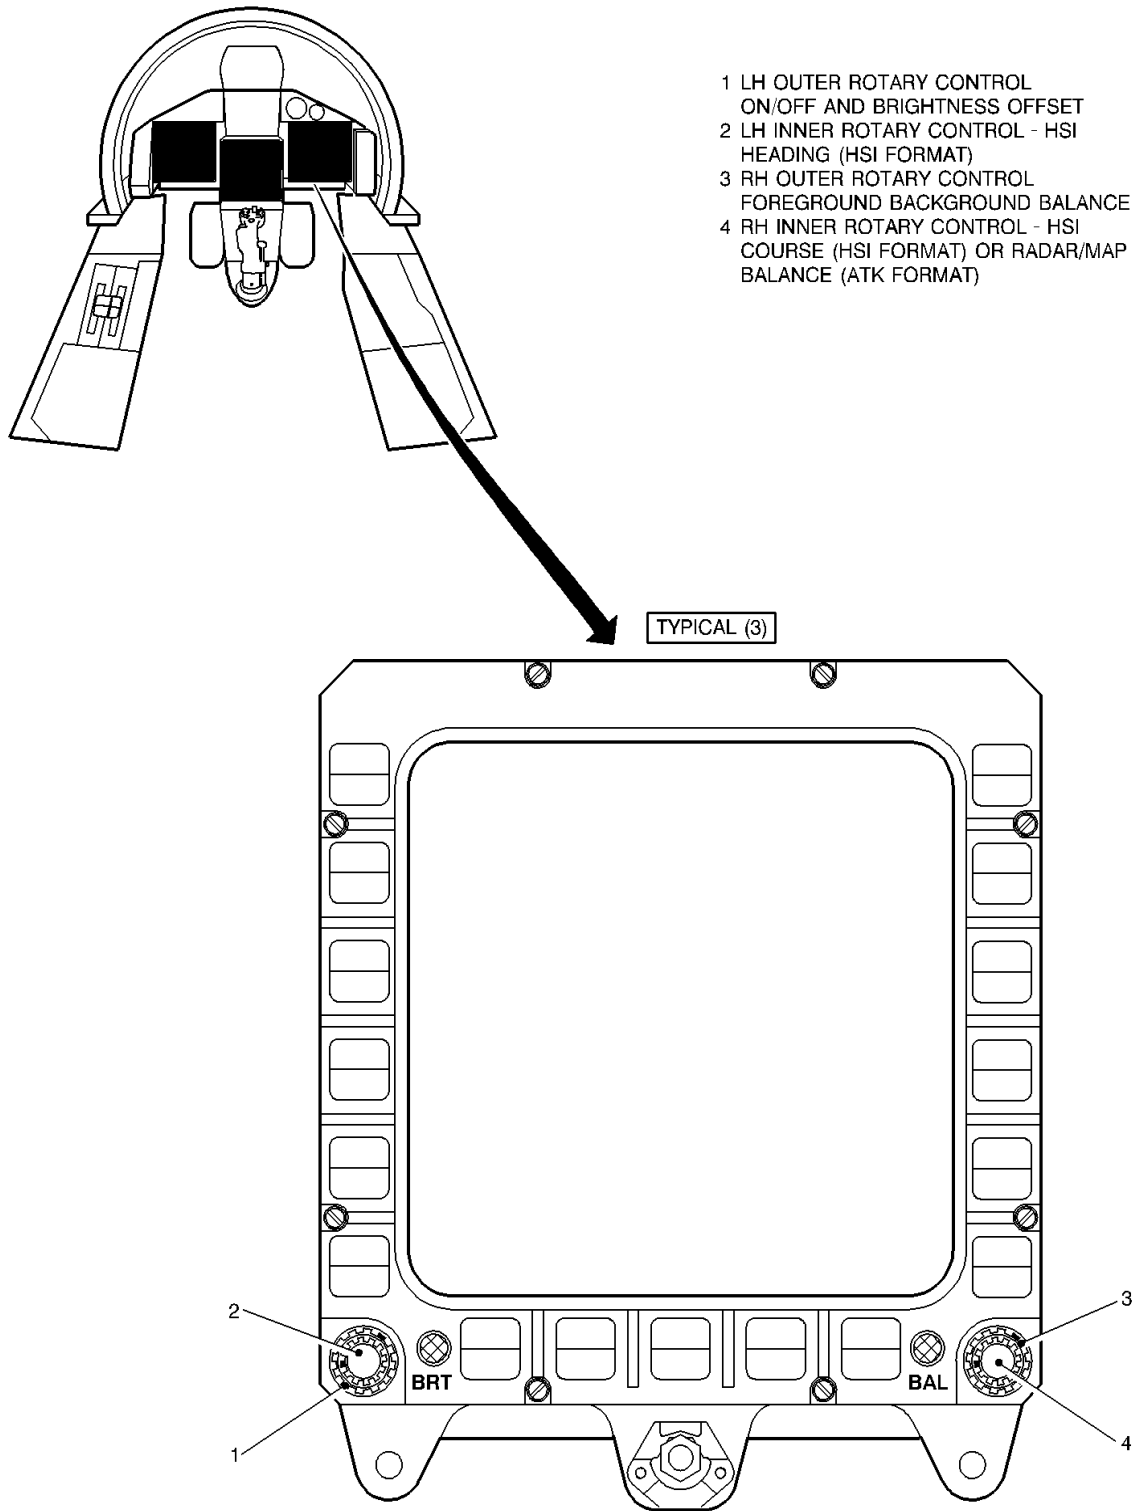

Figure 1.18 - Multifunction Head-Down Display
The aircraft is equipped with three MHDD (Figure 1.18), each MHDD comprising a 152mm square cathode ray tube display area, surrounded by a bezel on which 17 soft keys (SK) are located. Each MHDD is independent and presents color graphic displays of selected information, the moding of which is controlled by phase of flight (POF) selection and thereafter by manual selection. There are default display formats which are presented automatically upon entry into each POF. Two light sensors continually monitor the ambient lighting conditions to maintain the contrast level of the displays.
Two dual-concentric rotary control knobs, each with 270° rotation and a center detent, Figure 1.18, control the following functions: